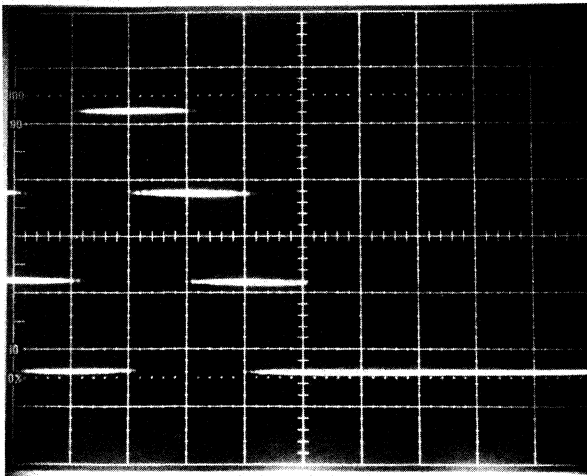

Fig. 3
4. Apply a precision voltage reference set to $-5V$ to the analog input (pin 33). Observe cross plot as shown in figure 3. The last step should be centered on the vertical grid line one cm to the left of center. Adjust offset potentiometer as necessary to achieve this positioning.